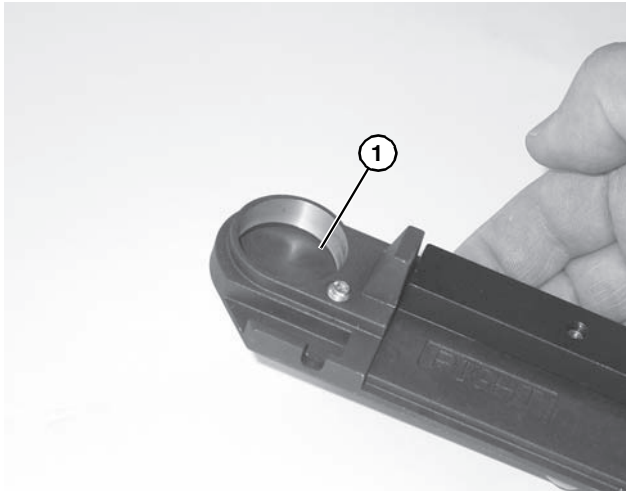

**Figure 41**
2. Using puller part #807-1716 (**Figure 41, item 1**), remove and discard bearing.